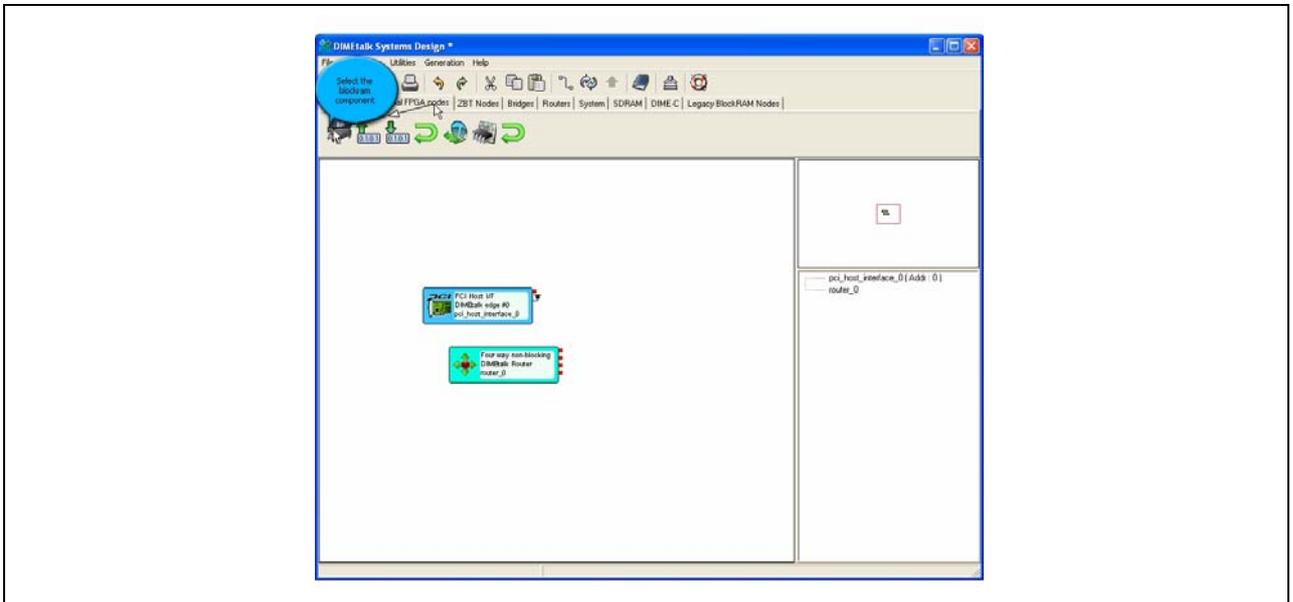

Figure 8: Block RAM Component
- A functional node, in this case a block RAM component, should be placed down to ensure the network can be implemented properly. Go to the 'Basic internal FPGA internal nodes' tab and select the block RAM node as shown in Figure 8.